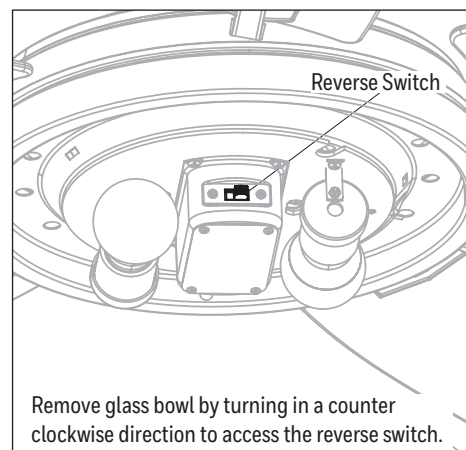

Figure 6.3
3. Using a ceiling fan will allow you to raise your thermostat setting in summer and lower your thermostat setting in winter without feeling a difference in your comfort. The reverse switch is located on the switch housing (Figure 6.3).